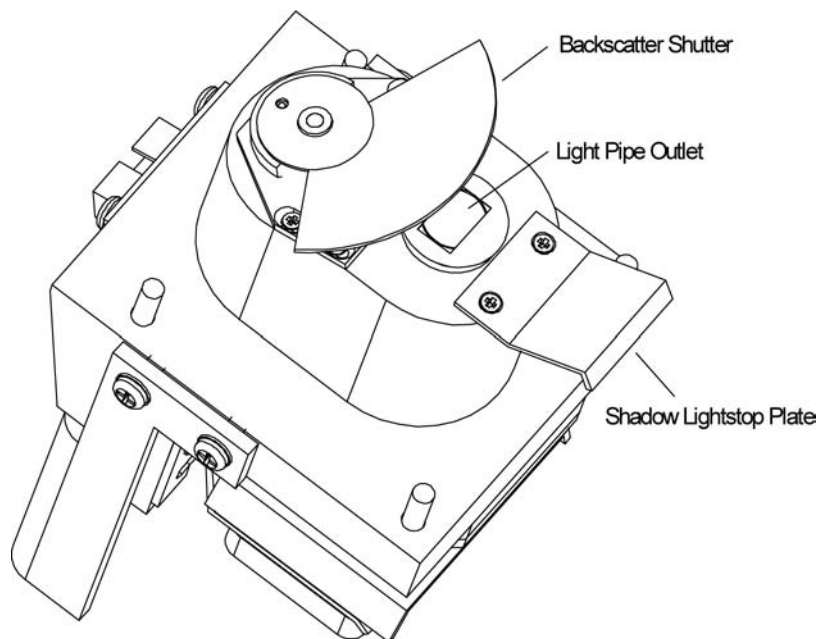

Figure 8-29
- d. Locate the light pipe outlet on the underside of the lamp base assembly (Figure 8-29). Use a cotton swab and alcohol to clean the outlet, making sure the swab does *not* touch black components.